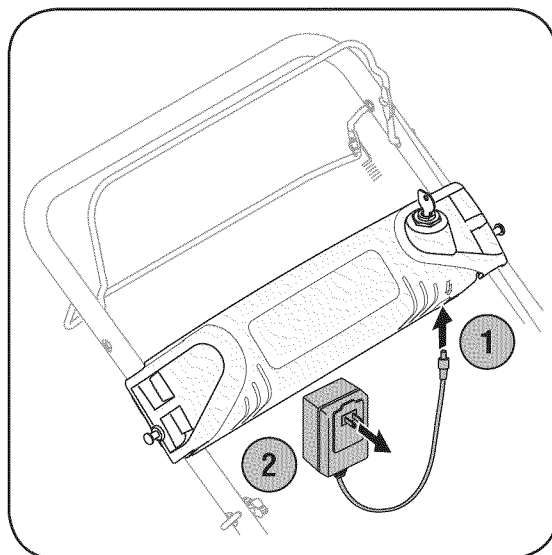

Figure 5-8
1. Plug the battery charger into the outlet on the underside of the battery housing. See Figure 5-8.